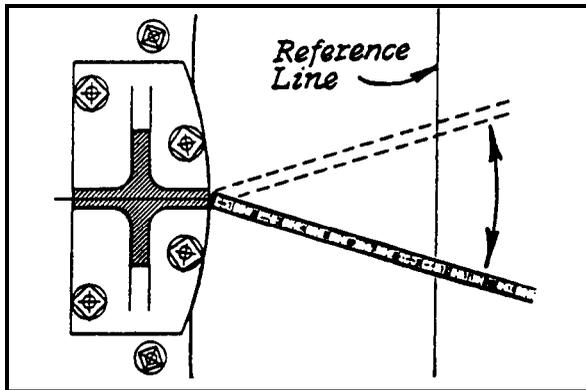

Fig. 4.15
• Swing Ties to Lines. The correct distance from a point to a line lies along a second line running from the point square to the first line (see Fig. 4.15). You do not need to establish this connecting line with a square in order to measure it. All you need to do is put the zero end of your tape or rule on the point (feature whose location you are measuring), and swing the tape by the reference line. The *minimum* measurement on the tape is the true
dimension. This type of measurement is called a **swing tie**. If it were worth your time to check it, you would find that the point of minimum measurement on the reference string would lie at the intersection of the squared connecting line going to the point on the feature. (Ordinarily the face of rule shown in Fig. 4.15 would be turned 90° so that swinging the rule will not introduce error from “rocking” the wider end on its corners.)